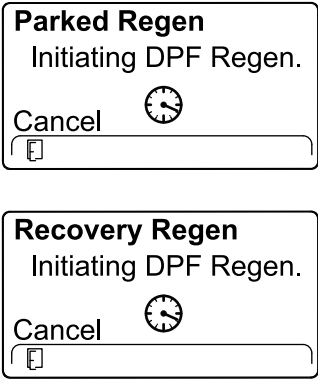

Figure 77
5. The InfoCenter displays the INITIATING DPF REGEN message (Figure 77).